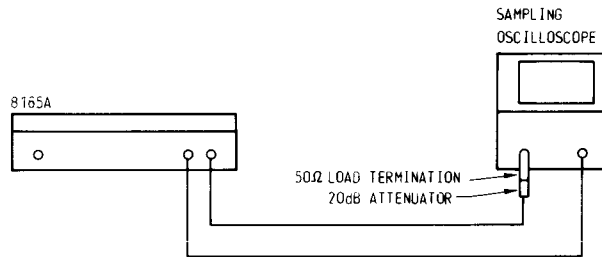

Figure 4-6. Test Setup for Pulse Characteristics.
1. Connect the equipment as shown in Figure 4-6.